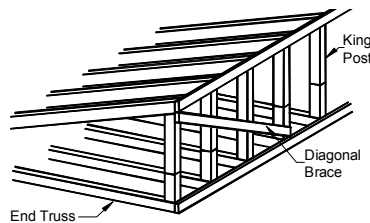

Figure 22. Diagonal bracing
- [Alternate] Install Bracing.** Install diagonal bracing at both ends of each home section from the top of the gable end truss approximately 45 degrees downward. Keep trusses plumb and secure the brace with two (2) 7/16" x 1-3/4" x 16 ga minimum staples per truss (**Figure 22**).